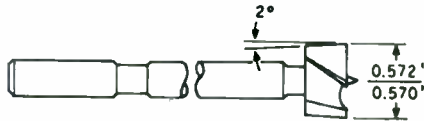

FIGURE 1: Modified tool for grille snap installation.
4. Finally, here's what to ask for. Have him grind down the bit to 0.572/0.570" with a 2° back taper (Fig. 1). Note that this is a little larger than 9/16". I find this size makes installing the female snaps much easier. No heavy pounding is required, yet they still grip the hole properly, and the male snaps still "snap," too.